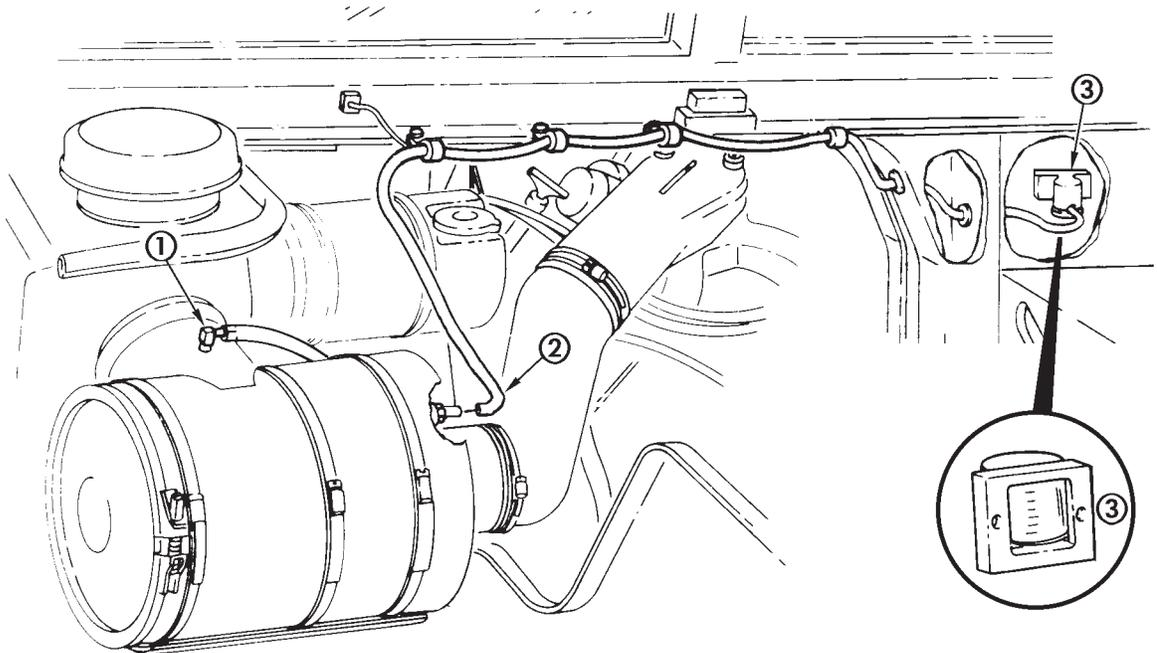

Figure 2-1. Manometer Intake Restriction Test.
A. MANOMETER INTAKE RESTRICTION TEST (Figure 2-1)
Connect manometer tube to air cleaner vent line (1) pipe (Fig. 2-1). Run engine at approximately 1000 RPM. Water travel should not exceed 3 inches of water travel. If water travel exceeds 3 inches, check for restriction in air intake system.
- To test air indicator gage, remove air hose (2) and create a vacuum on tubing. Gage (3) should move into the red position.